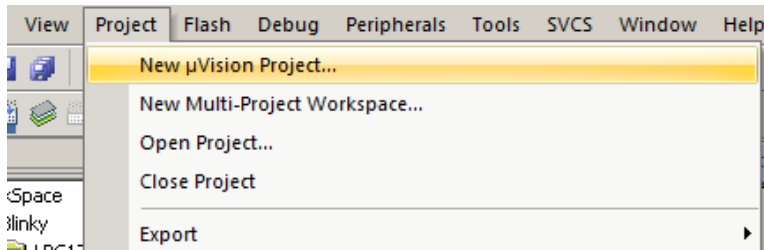

Figure 7.1: Keil IDE: Create a New Project
- Project \rightarrow New μ Vision Project (See Figure 7.1)